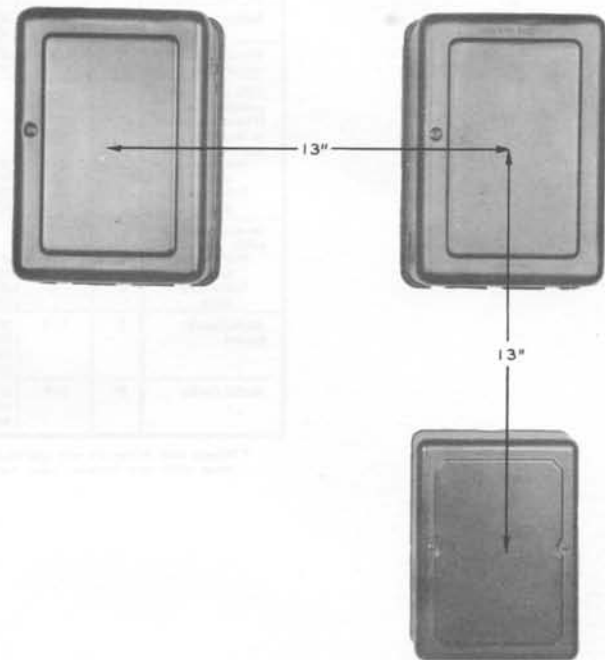

Fig. 2—Subset Separation to Prevent Cross Induction
- 2.03 Subsets equipped with 425B networks or closed induction coils (101-type with B- or C-type ringers) may be mounted side-by-side, or one above the other without causing crosstalk. Subsets equipped with other types of coils and ringers (open core) should be placed a minimum of 13 inches apart, measured center-to-center, to avoid crosstalk (see Fig. 2).